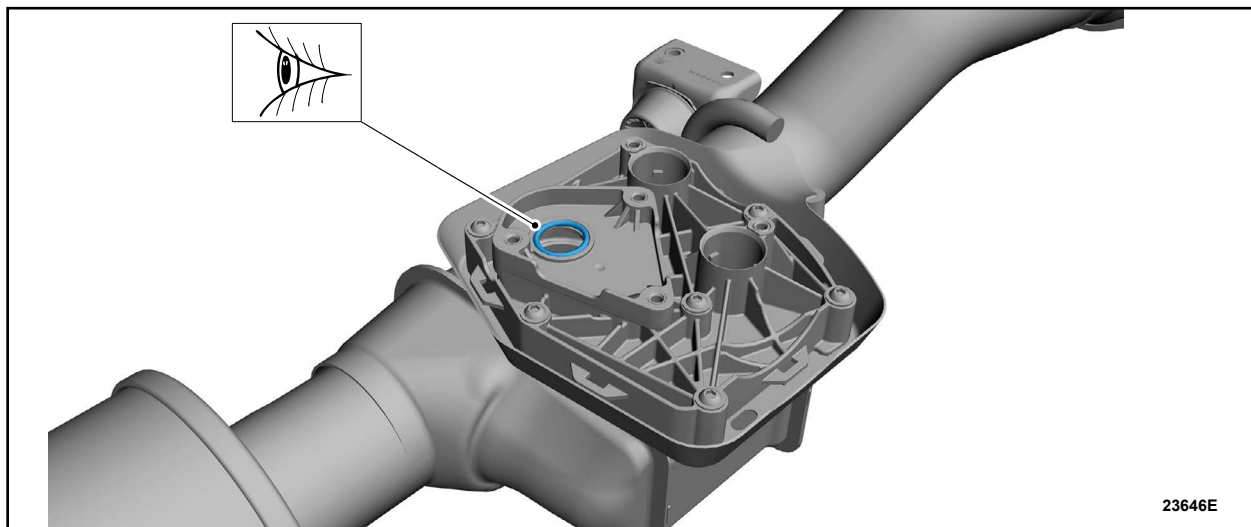

FIGURE 5
5. Inspect the heat exchanger and actuator for the O-ring seal. Remove the O-ring seal if it is on the heat exchanger. See Figure 5.